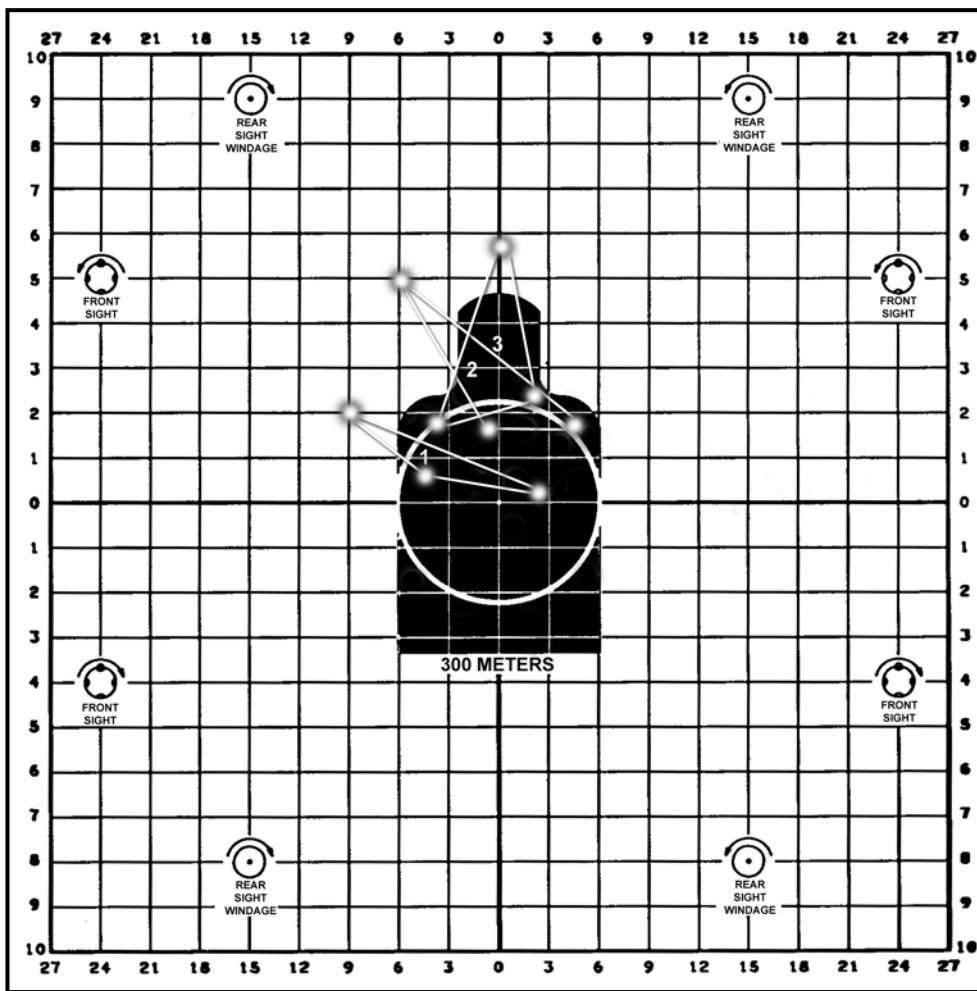

Figure 5-15. Shot groups with improper vertical placement.
(5) **Shot Groups with Improper Vertical Placement.** The shot groups shown in Figure 5-15, when viewed as nine shots, reflect proper horizontal placement of shots but unsatisfactory vertical dispersion. This indicates a failure to vertically aim at target center of mass for each shot. The soldier's aiming procedure is checked along with other marksmanship fundamentals.